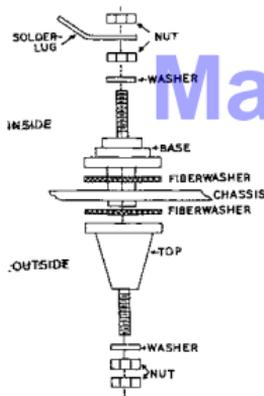

Figure 1
- (✓) Mount the two feed-through insulators in the 5/16 holes as shown in Pictorial 1. Be sure to mount them with fiber compression washers on each side of the panel to avoid breaking. See Figure 1. Put the long end of the insulator on the outside of the panel. Place the flat metal washers next to the ceramic instead of between the nuts as supplied. Secure the units with a nut on each end. Do not overtighten. Place #6 solder lugs on the short end of the insulators and secure with a nut. Replace the other two nuts on the long end of the insulators.